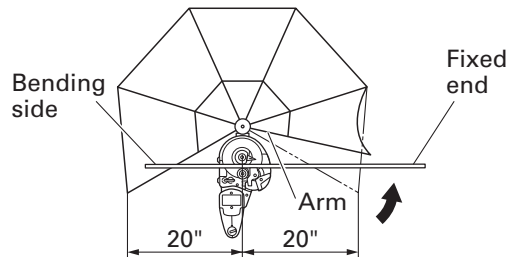

Fig. 20
- **Install the deflection guard for operation with the bending length of a rebar 20" (inside dimension of the deflection guard) or less to protect the persons around the rebar cutter/bender in case rebar splinters into pieces and deflects during bending. (Fig. 20)**
- (2) Be sure to install the deflection guard when bending a rebar whose bending length is 20" (inside dimension of deflection guard) or less and the fixed length is more than 20". In this case, move the arm at the fixed end. (Fig. 20)